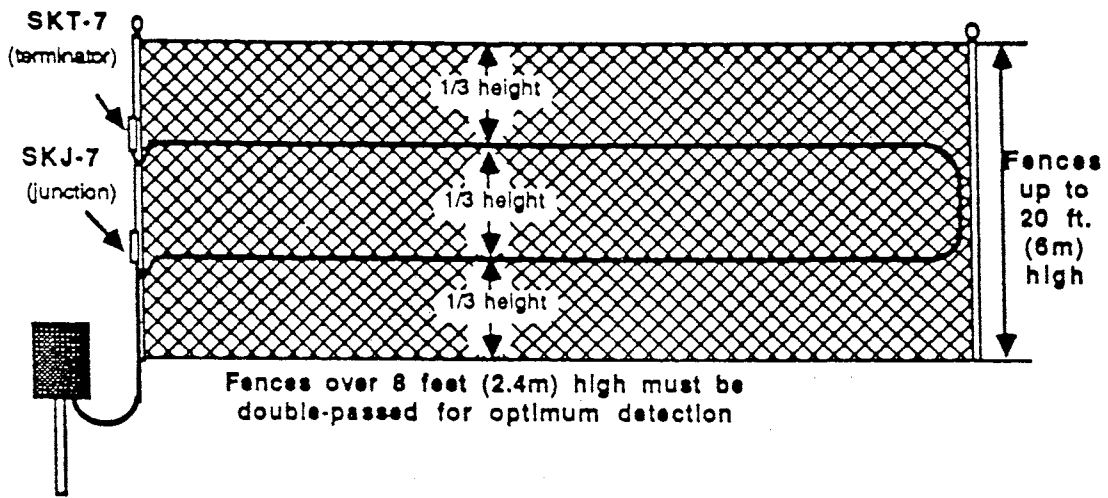

Figure 4-5. Sensor Cable on Fences >7 Feet (2.4 m)
- On fences > 10 feet (3 m) high, the cable must be double-passed to insure adequate detection (Figure 4-5). Cable lines should be located at approximately one-third and two-thirds of the way up the fence.